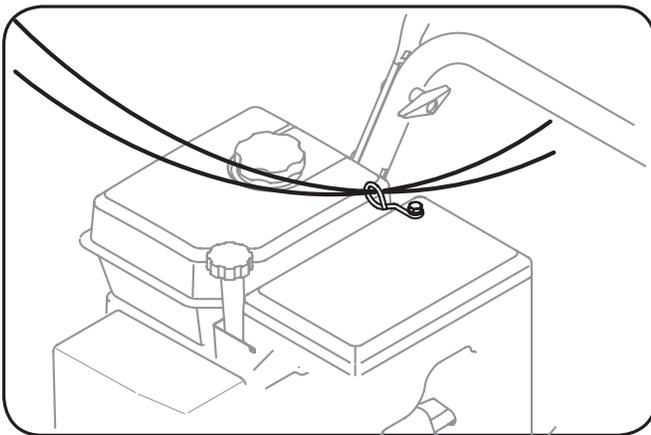

Figure 3-10
- Check that all cables (if equipped) are properly routed through the cable guide on the right side of the chute crank rod. See Fig. 3-10.